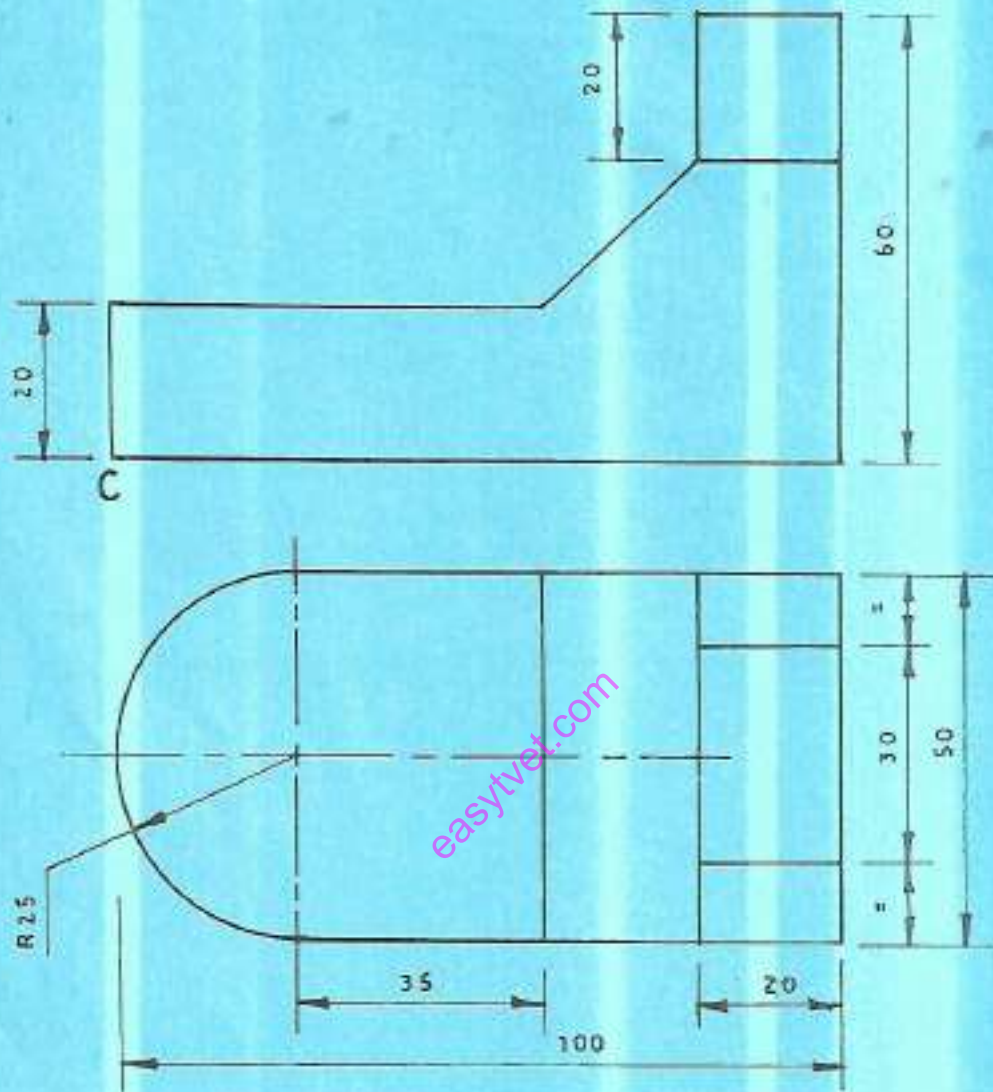

Fig.1
6. Figure 1 shows a front elevation and plan of a block drawn in first angle projection. Construct its isometric view taking part marked C as the lowest point. (20 marks)